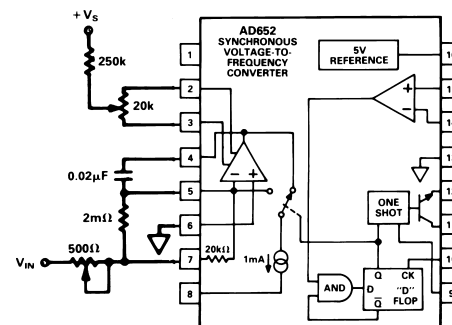
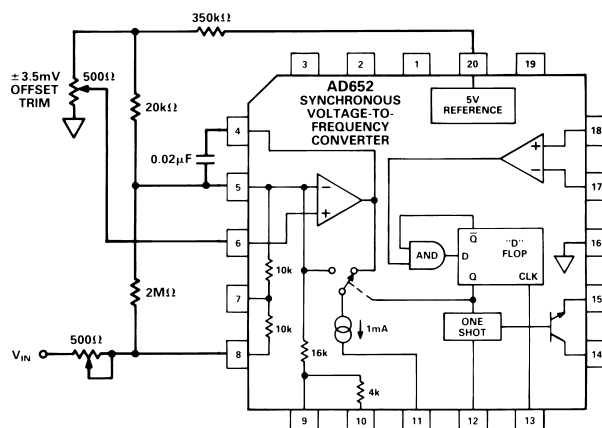

Figure 10a. Cerdip Gain and Offset Trim
Figure 10b. PLCC Gain and Offset Trim
adjustment is then accomplished using a 500  $\Omega$  series trimmer. See Figures 10a and 10b. When negative input voltages are used, this 500  $\Omega$  trimmer will be tied to ground and Pin 6 will be the input pin.
The offset of the op amp may be trimmed to zero with the trim scheme shown in Figures 10a for the cerdip packaged device and Figure 10b for the PLCC packaged device. One way of trimming the offset is by grounding Pin 7 (8) of the cerdip (PLCC) packaged device and observing the waveform at Pin 4. If the offset voltage of the op amp is positive, then the integrator will have saturated and the voltage will be at the positive rail. If the offset voltage is negative, then there will be a small effective input current that will cause the AD652 to oscillate and a sawtooth waveform will be observed at Pin 4. The trimpot should be adjusted until the downward slope of this sawtooth becomes very slow, down to a frequency of 1 Hz or less. In an analog-to-digital conversion application, an easier way to trim the offset is to apply a small input voltage, such as 0.01% of the full-scale voltage, and adjust the trimpot until the correct digital output is reached.